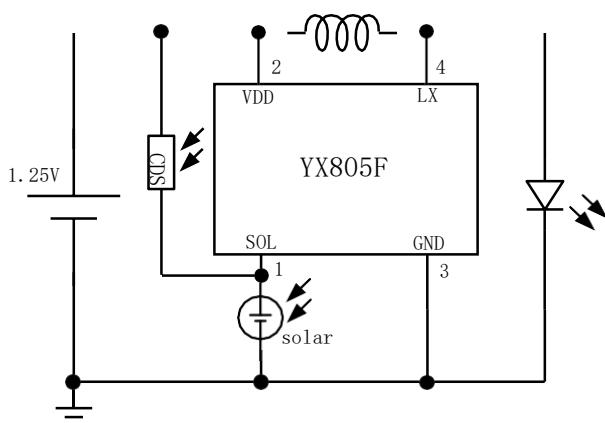
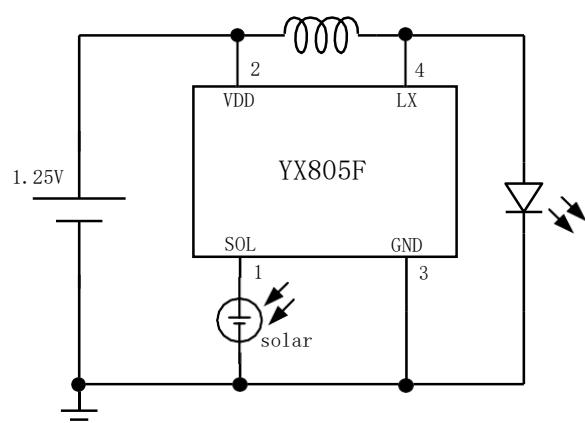

Figure 1. Photoresist control enable
Figure 2. Solar cell control enable
**Functional block diagram****Figure 2 internal logic block diagram**(TO-94 package, VIN = 1.2V, I = 47) $\mu$ H (0307), load 1 white LED, Ta = 25 ° C)**Discharge current vs. input voltage****enable voltage vs. input voltage****Charging voltage difference vs. charging current**
YX805F changes the input current by changing the peripheral inductance value.The following table lists the relationship between inductance and input current when driving a white LED according to the connection method in Figure 2:
Table 1. The connection method of Figure 1 and Figure 2